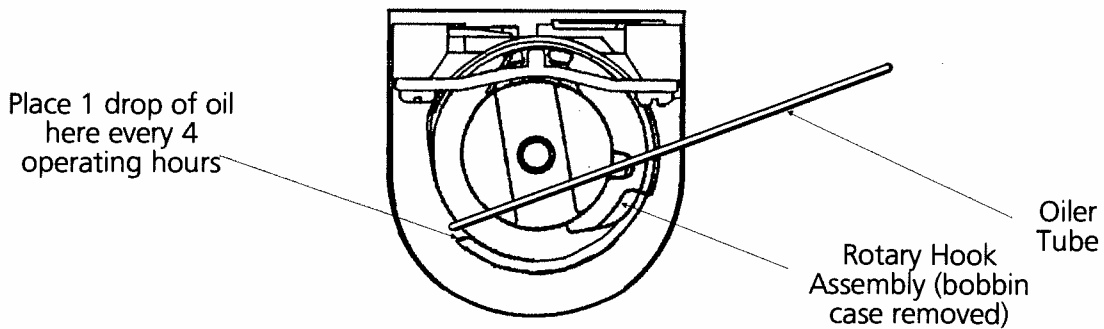

Figure 8-2
- 7. Place one drop of oil at the location on the hook assembly shown in Figure 8-2. Oil this area every four hours.